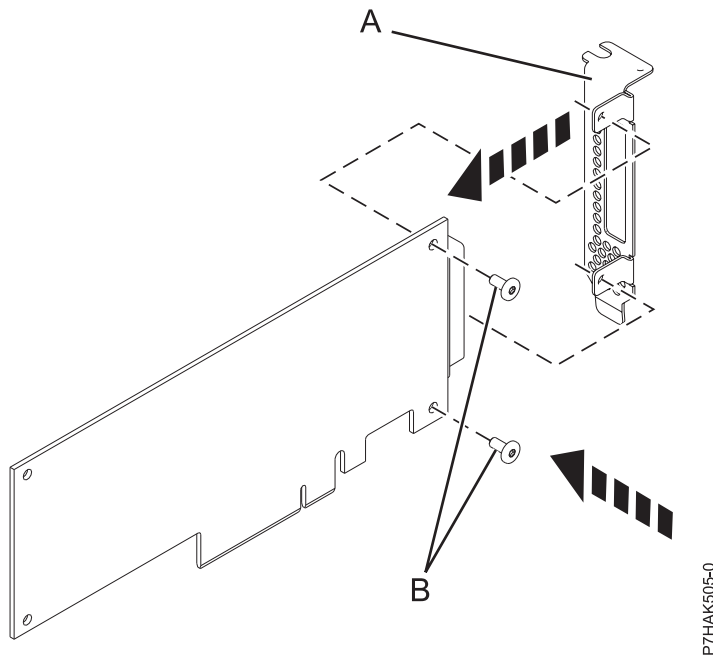

Figure 79. Attaching the low-profile tailstock to a PCIe adapter
14. Using a Phillips screwdriver and the two retaining screws **(B)**, attach the tailstock **(A)** from the failed PCIe adapter onto the new PCIe adapter, as shown in Figure 79.